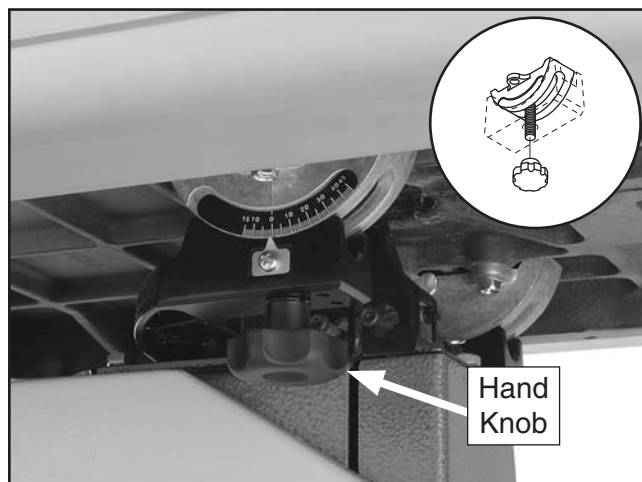

Figure 14. Table installed on trunnions.
14. Thread the table trunnion hand knobs onto the table bolts to secure the table (**Figure 14**).